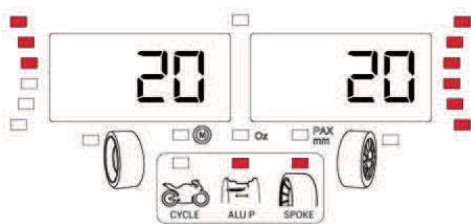

Figure 29c
8. Slowly turn the wheel by hand to the weight application position (Fig. 29c).